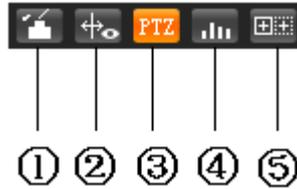
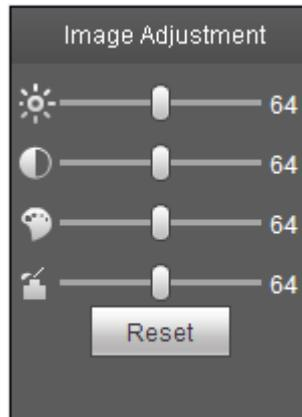

Figure 2-3
Figure 2-4
See Figure 2-3 and Figure 2-4 for the video window adjustment function.
① Image adjustment	<p>Click image adjustment button, you can see the image adjustment interface on the right of preview interface, see Figure 2-4, click left mouse button to adjust image config.</p> <p>: It is to adjust monitor video brightness.</p> <p>: It is to adjust monitor video contrastness.</p> <p>: It is to adjust monitor video hue.</p> <p>: It is to adjust monitor video saturation.</p> <p>: Restore brightness, contrastness, saturation and hue to system default setup.</p> <p>Note:</p> <ul style="list-style-type: none"> ● All the operations here apply to WEB end only. ● Please go to Setup->Camera->Conditions to adjust corresponding items.
② Rules info	Click the button, it is to display intelligent rule on the preview page after enabled, it is enable by default.
③ PTZ	Enable or disable PTZ interface. Click left mouse button to display or hide PTZ control interface.